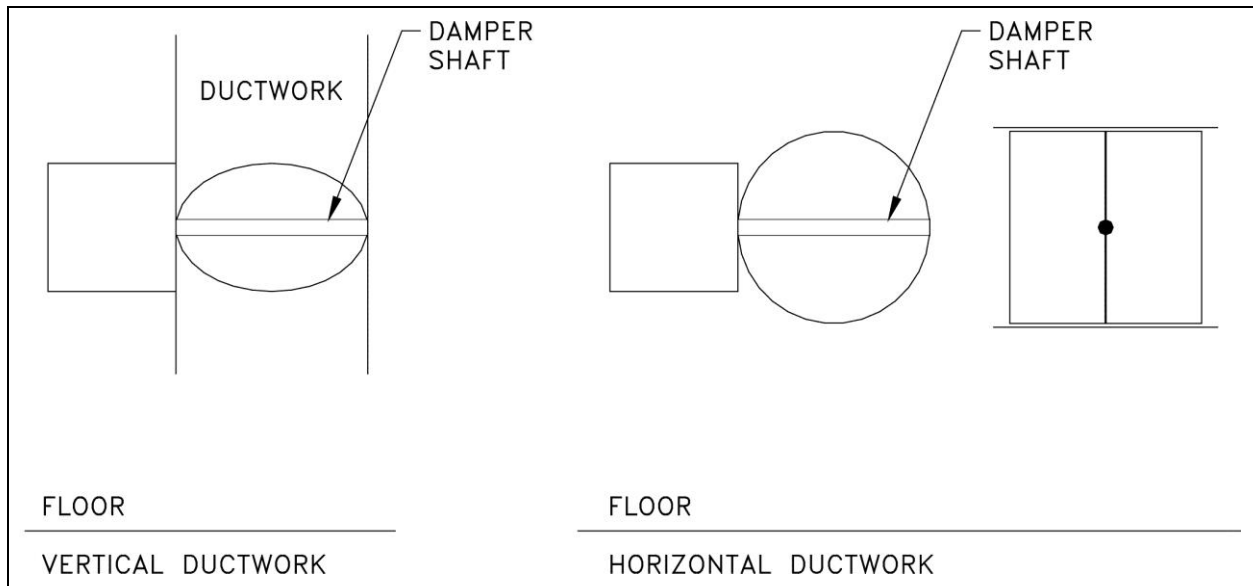

Figure 10: Proper Damper Mounting
2. The damper must be installed with the damper shaft parallel to the ground (Figure 10).